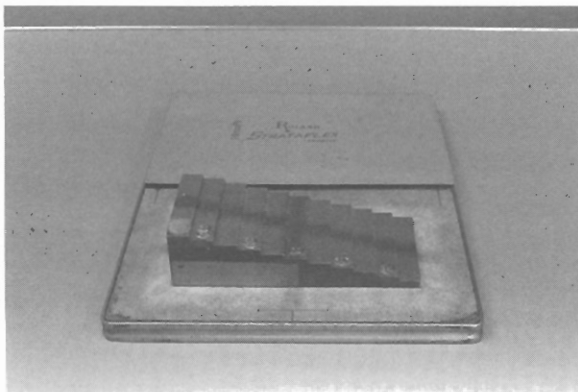

Fig 5–1. Making a sensitometry test strip using an aluminium step wedge
Making the step wedge image (see Fig 5–1)
- Plot a graph of **step numbers** on the **horizontal axis** against **densities** on the **vertical axis** and join up the plots (see Fig 5–2).